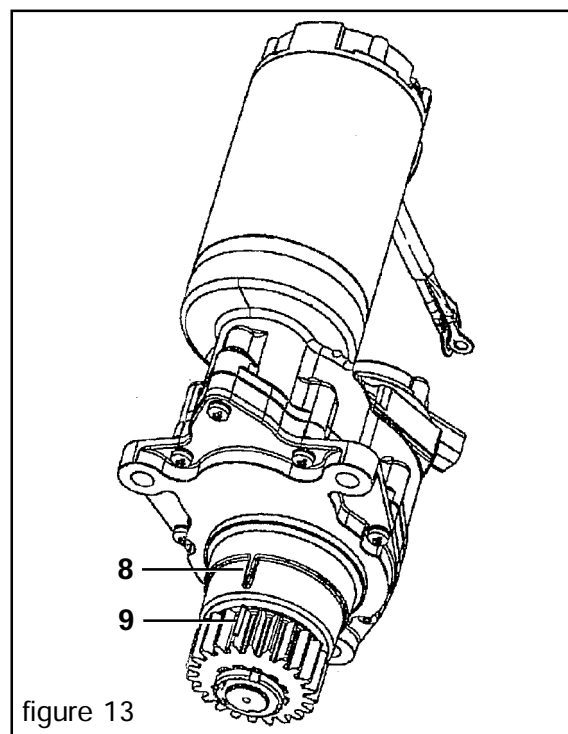

figure 13
- Setting the midpoint of the wheel potentiometer (figure 13):
- Manually turn the pinion (4) until the line marked on the tooth (9) corresponds with the marking on the motor reducer (8).